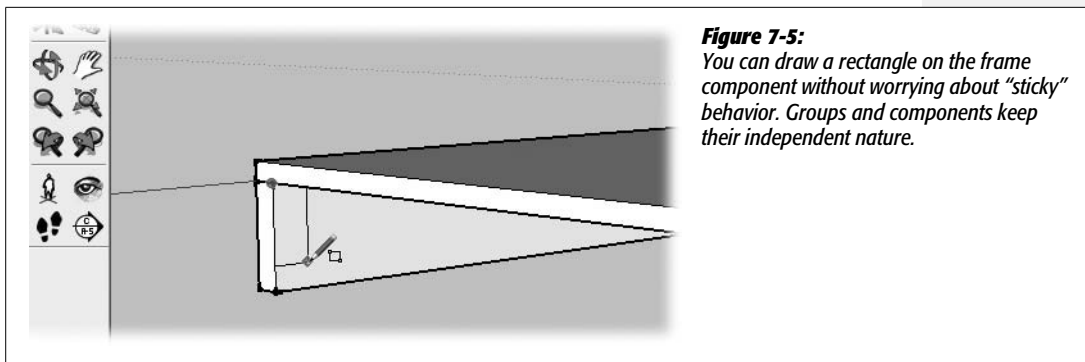

Figure 7-5:
15. Use the Rectangle tool to begin to draw a rectangle on the inside of the frame, as shown in Figure 7-5. Type 1.5,5.5 as the dimensions, and then press Enter (Return on a Mac).